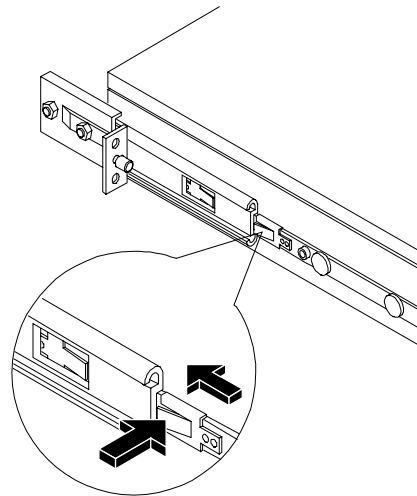

Figure 7-6. Pressing the Stop Release
- c. Pull the HP Netserver out several inches, then press the stop release on both slides to allow the Netserver to slide completely into the rack. See Figure 7-6.